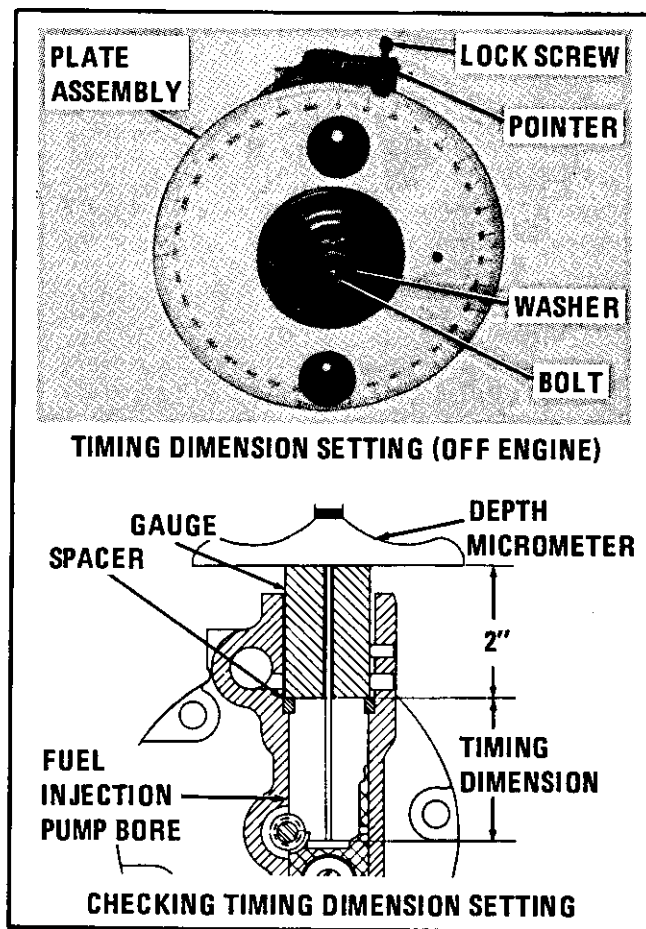

Figure 2-11. Fuel injection timing - off engine
10. To check fuel injection pump timing dimension and adjustment - off engine, refer to figure 2-11. Install pointer assembly on fuel injection pump housing.